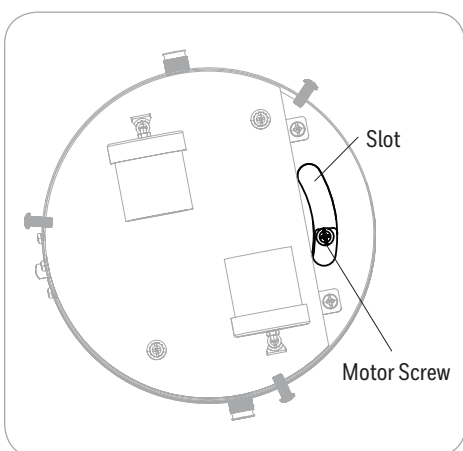

Figure 5.4
4. Remove the six motor screws and their washers from the bottom of the motor using a magnetic Phillips-head screwdriver (Figure 5.4).